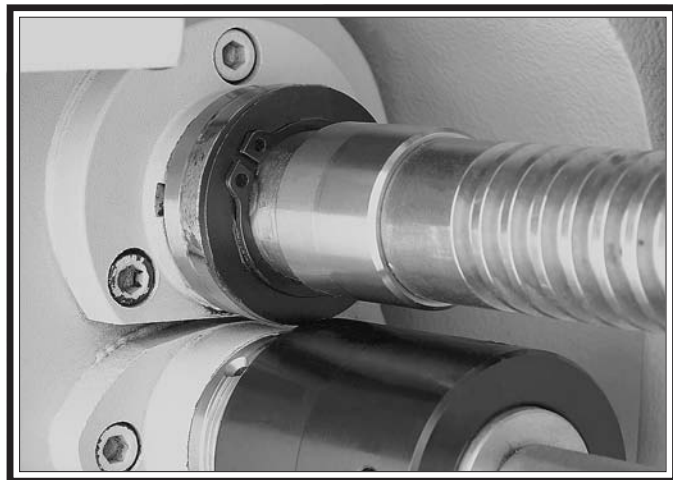

Figure 134. Retaining ring positioned with ears in front of pin access groove.
11. Return the retaining ring against the shroud washer and position the retaining ring ears over the shear pin head, as shown in **Figure 134**. This will prevent the shear pin from falling out if the shroud washer should rotate during operation.